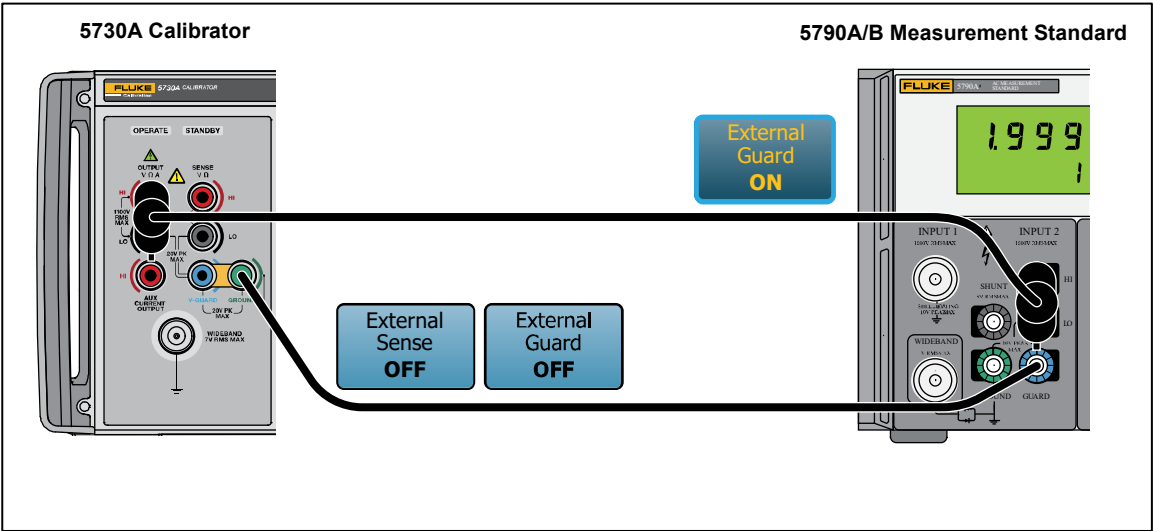

Figure 18. AC Voltage Test Setup
1. Place the 5790B on top of the Product and connect the equipment as shown in Figure 18. Other placements of the equipment are fine as long as they can be connected with the 12 inch cable.